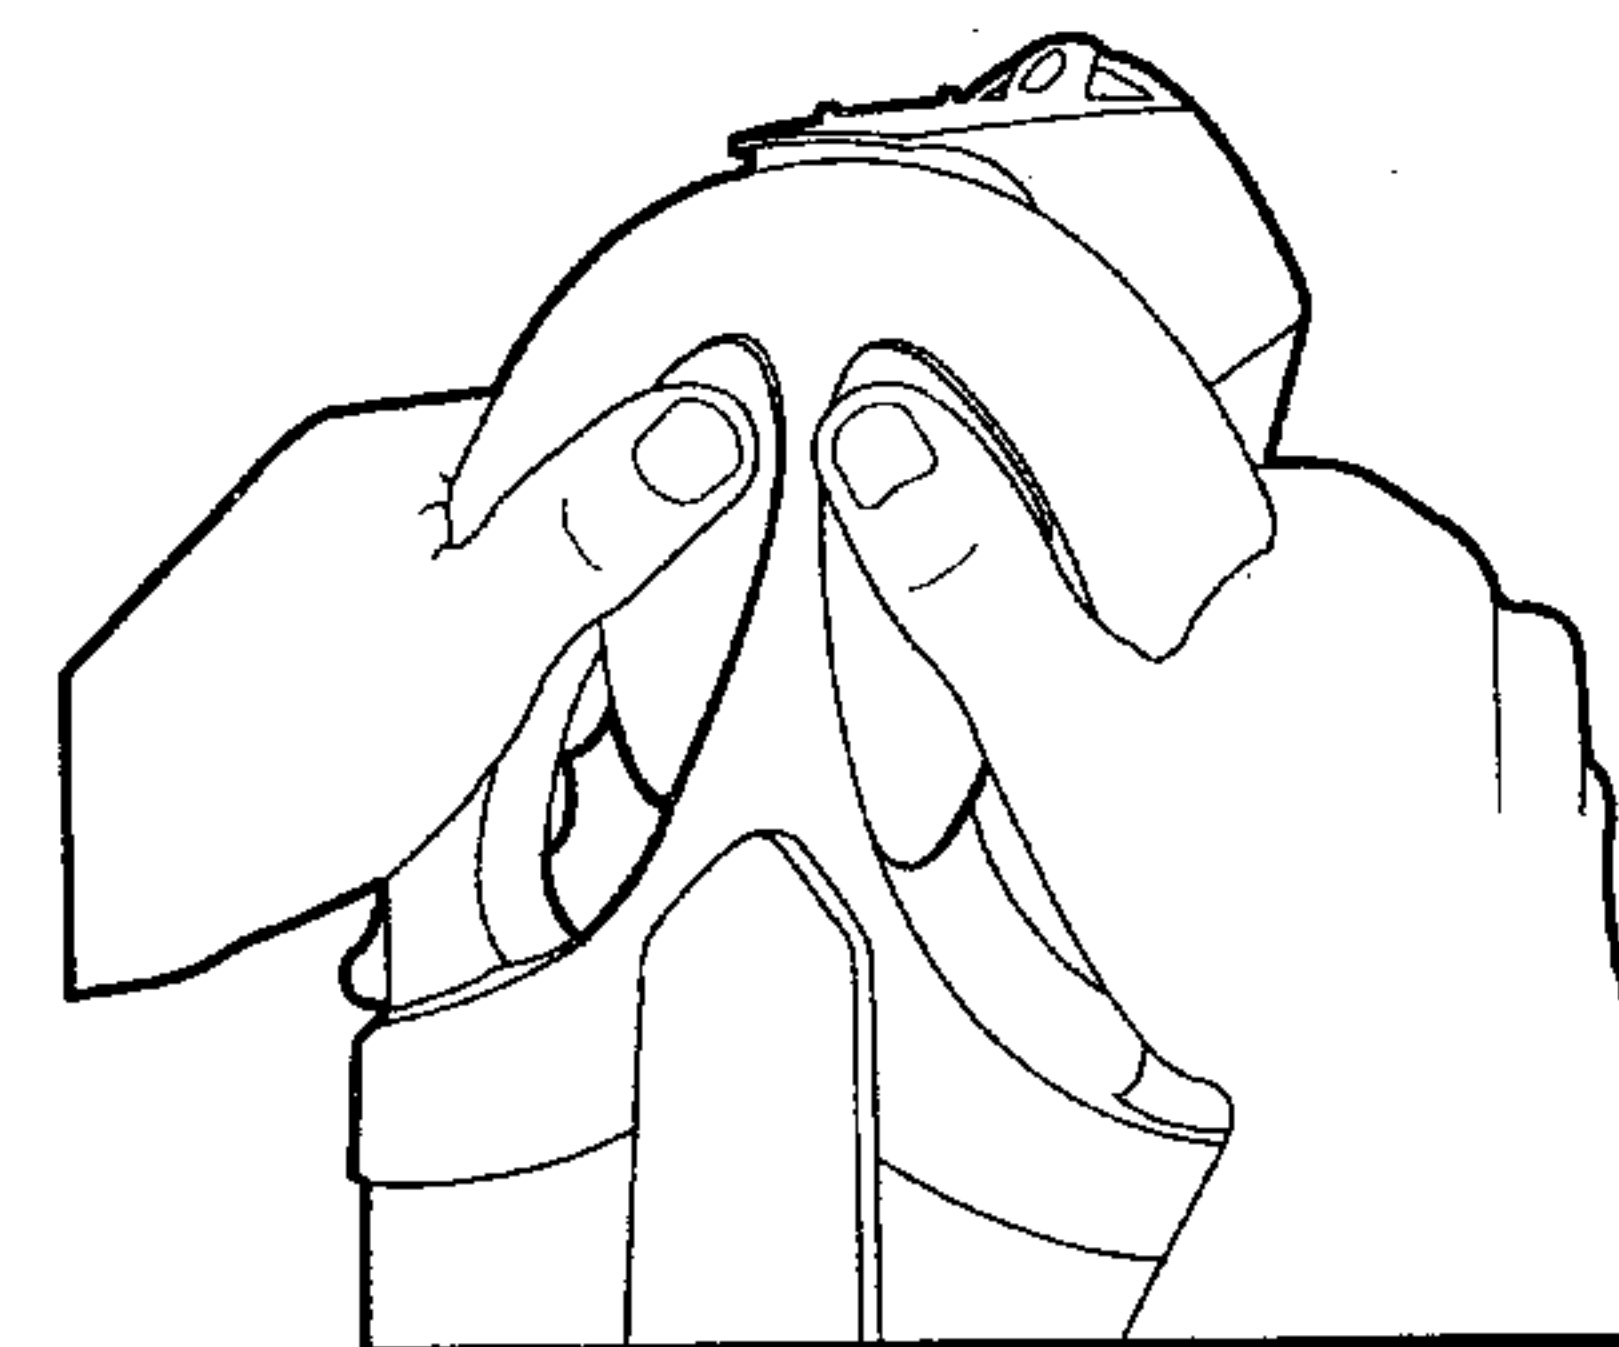

Figure 1:
- To remove the line trimmer from the charging rack, use both hands as per figure 1. Grasp both handles, press the thumbs against the front of the charge bracket, and then pull the unit straight out.